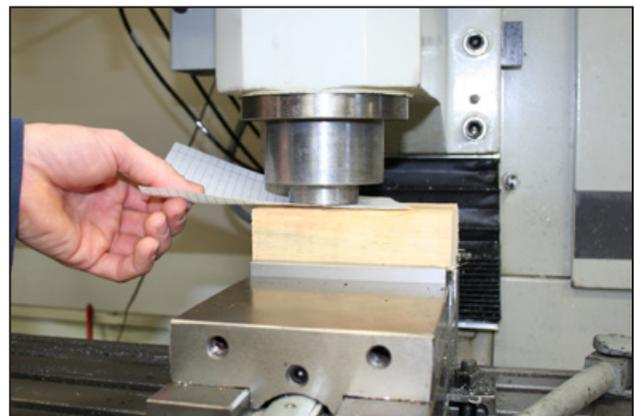

Figure 5.6
4. Place a piece of paper on the 2" x 4" and jog the spindle down carefully until the spindle nose just makes contact with the top of the piece. You will be able to feel when the paper is pinched (see **Figure 5.6**).